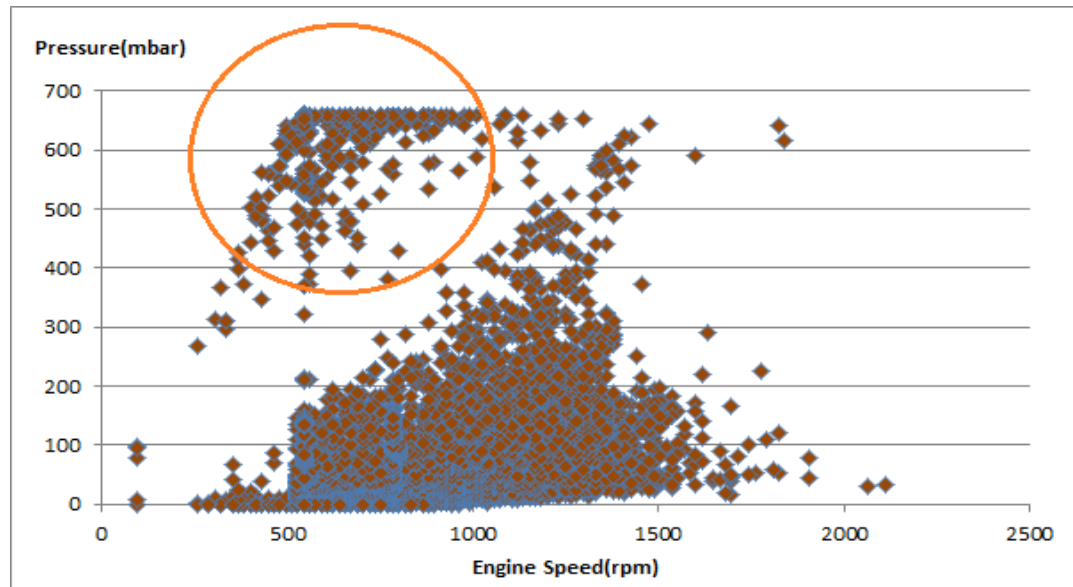

Figure 9- Pressure against engine speed
- The signed area in Figure 9 is a good reason to claim that this DPF need cleaning.